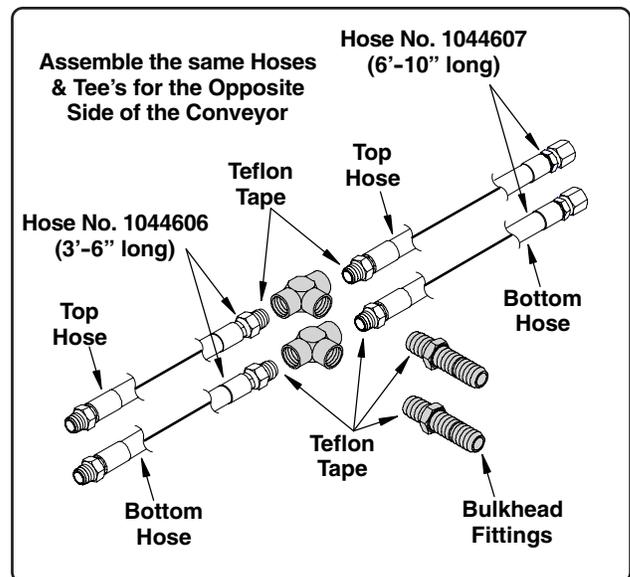

Fig. 10
1. Clamp a tee fitting into a vise. Apply teflon tape to the threads on the rigid nut end of a bulkhead fitting and tighten the bulkhead fitting securely into the single side of the tee (See Fig. 10).